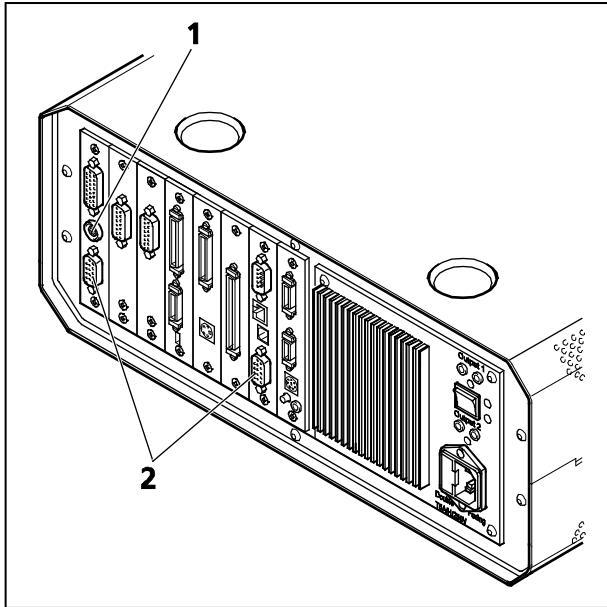
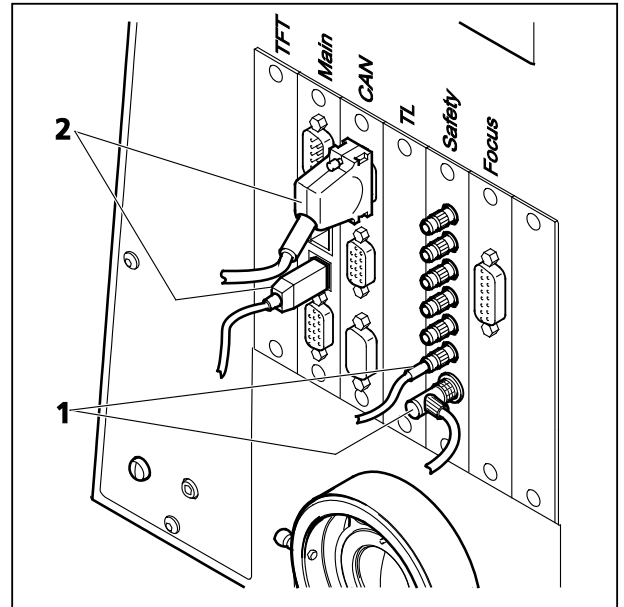
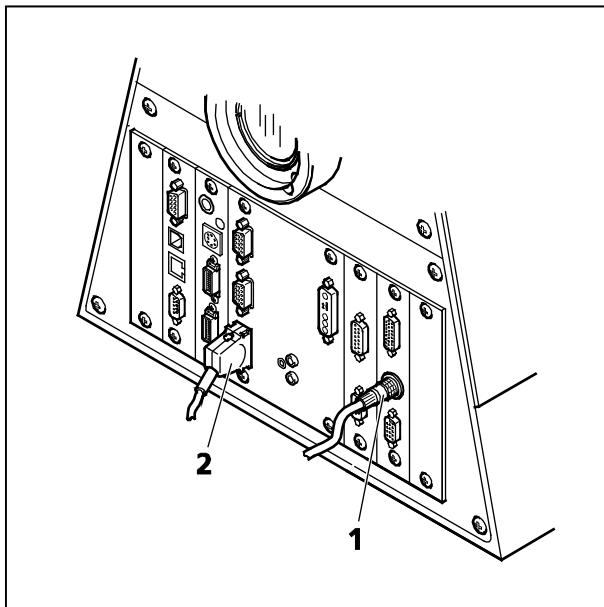

Fig. 28 Electronics Box of Axio Examiner with main connection to safety interface (1) and CAN-connectors (2)
Fig. 29 Connection of Axio Imager.Z2 to safety interface (1) and electronics (2)
Fig. 30 Connection of Axio Observer.Z1 to safety interface (1) and electronics (2)
1. The connection of the microscope to the safety interface of the system is located either on the additional Safety Box (Axio Examiner, Fig. 28/1) or on the rear side of the microscope (Axio Imager.Z2 or Axio Observer.Z1; Fig. 29/1 and Fig. 30/1). This connection has to be unplugged from the microscope which is not in use and plugged into the microscope to be used following the exchange of the scan head.
2. The CAN connections on the microscopes are shown in Fig. 28/2, Fig. 29/2 and Fig. 30/2. Remove the connection of the microscope no longer in use at the electronics rack and plug in the connection of the microscope which should be used instead.